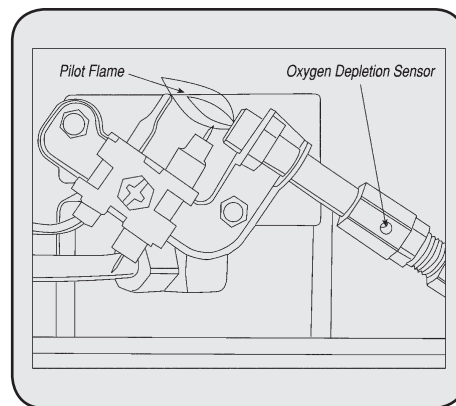

Figure 7
- Visually inspect the pilot flame and burner periodically during use. The pilot flame should be blue in color (not yellow) and will extend to the thermocouple. The flame will surround the thermocouple just below the tip. See Figure 7.
3. Remove (4) four screws that secure the rear cover (ref. # 3) to the heater.
5. Remove (3) screws attaching lower baffle to expose burner air openings.
8. Inspect and clean pilot (mounted to bracket) by using a vacuum or apply air pressure through the holes in the pilot indicated by the arrows in Figure 7.
10. Reinstall lower baffle with (3) screws.
11. Slide back cover over (2) plastic hooks on top of heater. Make sure rear cover aligns with plastic side covers and reinstall (4) screws to hold in place.